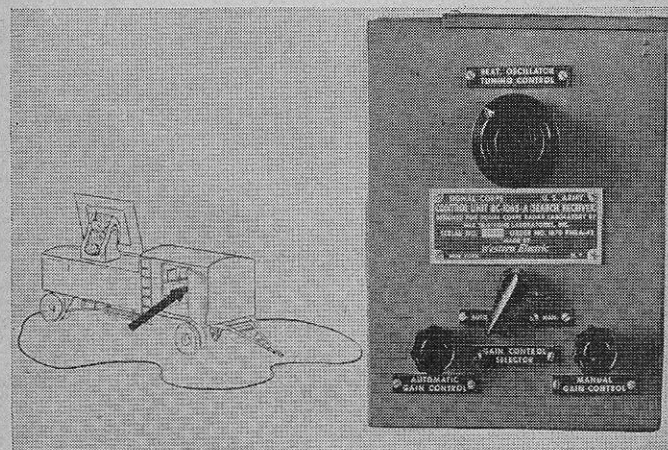

FIGURE 15.—Receiver control unit.
■ **13. RECEIVER CONTROL UNITS.**—Two receiver control units are provided in the cab of the trailer, one for the **SEARCH** and one for the **TRACK** receiver. Figure 15 shows details of the panels of these two units, which are identical. The various controls accomplish the following functions: